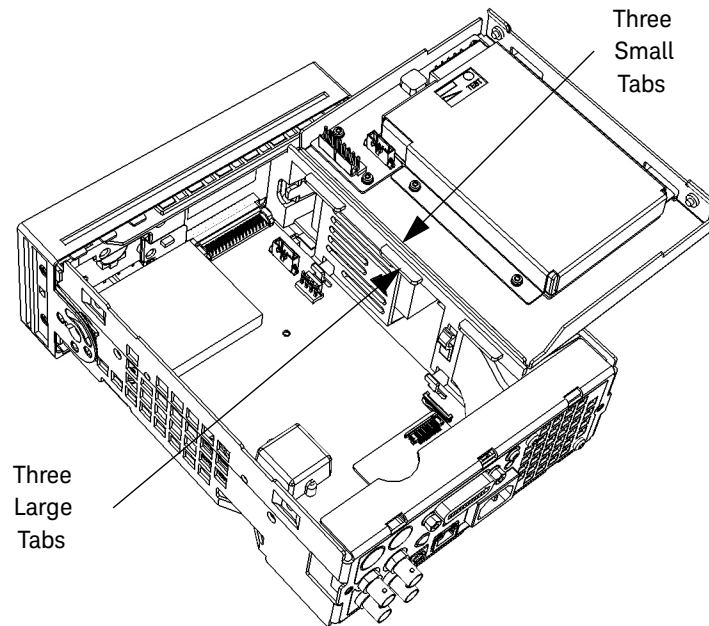

Figure 3-3 Battery assembly temporary position for service or Removal
- 4 Without disconnecting the battery charging cable, carefully turn the battery assembly over on its back and insert the three smaller tabs behind the large tabs into the three slots in the assembly. (See Figure 3-3.)